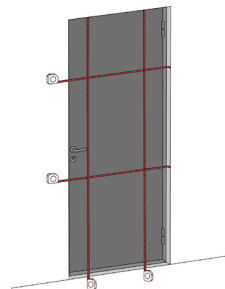

Figure 3.
2.2. Using a tape measure, determine the size of the doorway in several places by width and height. The recommended size of the doorway around the entire perimeter should be up to 30 mm larger than the installation size of the door frame on each side (figure 3).